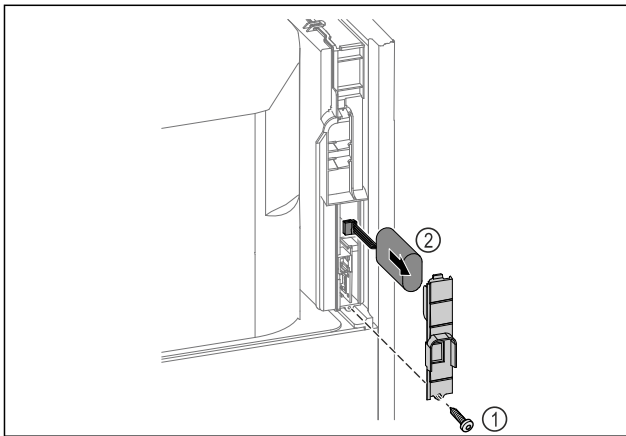

Fig. 254
- Unscrew screw and remove cover from the back of the appliance Fig. 254 (1).
- Disconnect the battery and remove it Fig. 254 (2).